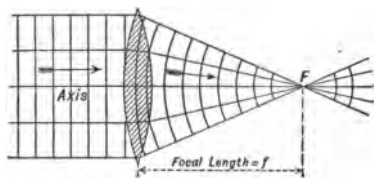

FIG. 417. — Focus of convex lens.
**445. Action of converging lens.** Suppose a converging lens is held so that the sunlight comes to it along its principal axis (Fig. 417). The rays of light will be so refracted as to converge at a point  $F$  on the axis. If a piece of paper is